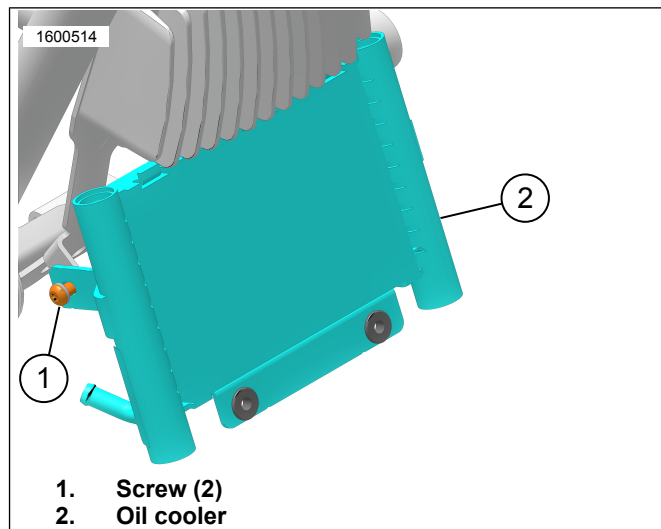

Figure 2. Oil Cooler Screws
2. See Figure 2. Remove screws (1).
- a. See Figure 2. Install and tighten screws (1).